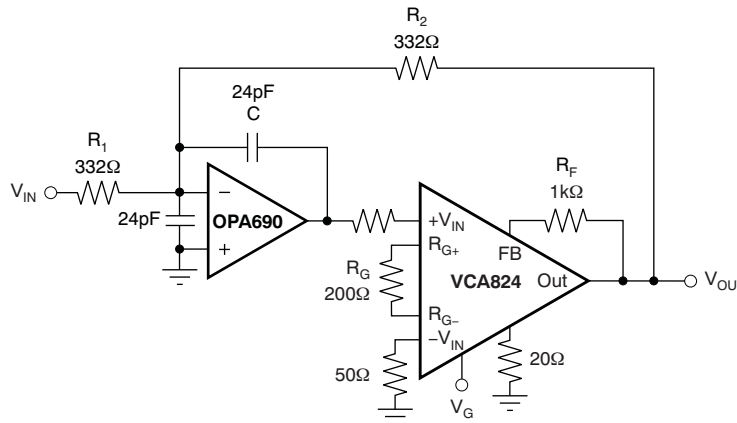

Figure 74. Voltage-Control Low-Pass Filter
In the circuit of Figure 74, the VCA824 serves as the variable-gain element of a voltage-controlled low-pass filter. This section discusses how this implementation expands the circuit voltage swing capability over that normally achieved with the equivalent multiplier implementation. The circuit control voltage, V_G, is calculated as according to the simplified relationship described in Equation 6.
Because the VCA824 is most linear in the midrange, the median of the adjustable pole should be set at V_G = 0V (see Figure 13, Figure 33, Figure 54, and Equation 8). Selecting R₁ = R₂ = 332Ω, and targeting a median frequency of 10MHz, the capacitance (C) is 24pF. Because the OPA690 was selected for the circuit of Figure 74, and in order to limit peaking in the OPA690 frequency response, a capacitor equal to C was added on the inverting mode to ground. This architecture has the effect of setting the high-frequency noise gain of the OPA690 to 2V/V, ensuring stability and providing flat frequency response.